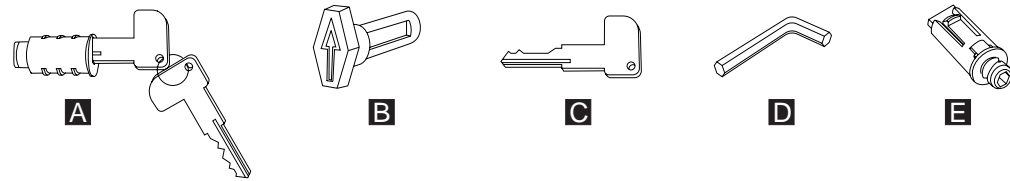

Figure 52. Lock accessories
Figure 52 shows the components of the lock insert assembly as follows:
1. The lock insert fits all of the way into the lock cylinder only when the slot in the bottom of the cylinder and the lug on the end of the insert are both in alignment. If necessary, insert the aligner tool (see Figure 52) into the lock cylinder and rotate it until you feel it engage the slot at the bottom of the cylinder, then turn the aligner tool until the arrow points up.
1. Insert the blank lock insert handle into the blank lock cylinder (see Figure 52).